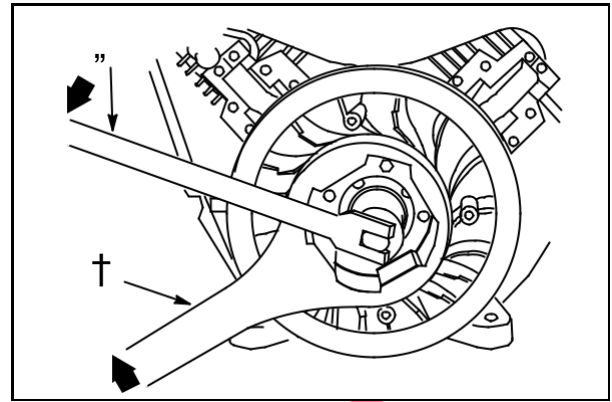

Fig. 15
Place Flywheel Holder #19321 (6) on fan retainer with lugs of flywheel holder engaging slots on the fan retainer, Fig. 15.